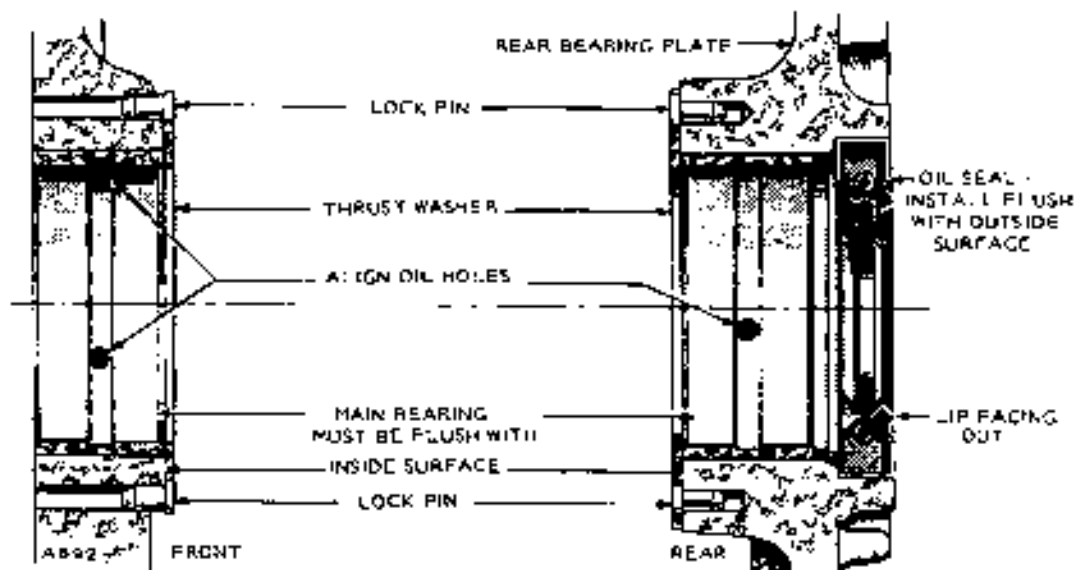

FIGURE 17-20. INSTALLING REAR BEARING PLATE OIL SEAL
4. When installing bearing plate oil seal, tap new seal in until it bottoms flush with rear surface of bearing plate, Figure 17-20. Use a seal expander or place a piece of shim stock around the end of the crankshaft when replacing the bearing plate to avoid damaging the seal. Remove shim stock as soon as plate is in place.